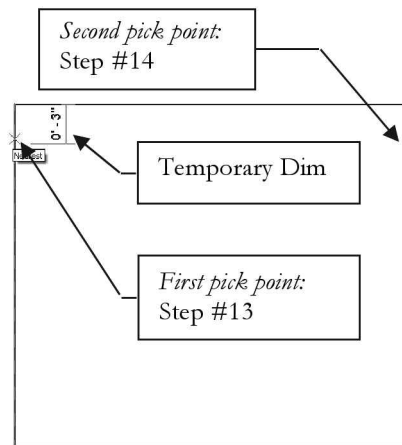

FIGURE 4-2.4 Drawing a line
13. Select the **Model Line** tool and then pick a point approximately 3" down from the upper-left corner; a temporary dimension will be displayed before clicking your mouse button (Figure 4-2.4).
14. Complete the horizontal line by picking a point perpendicular to the vertical line on the right (Figure 4-2.4).